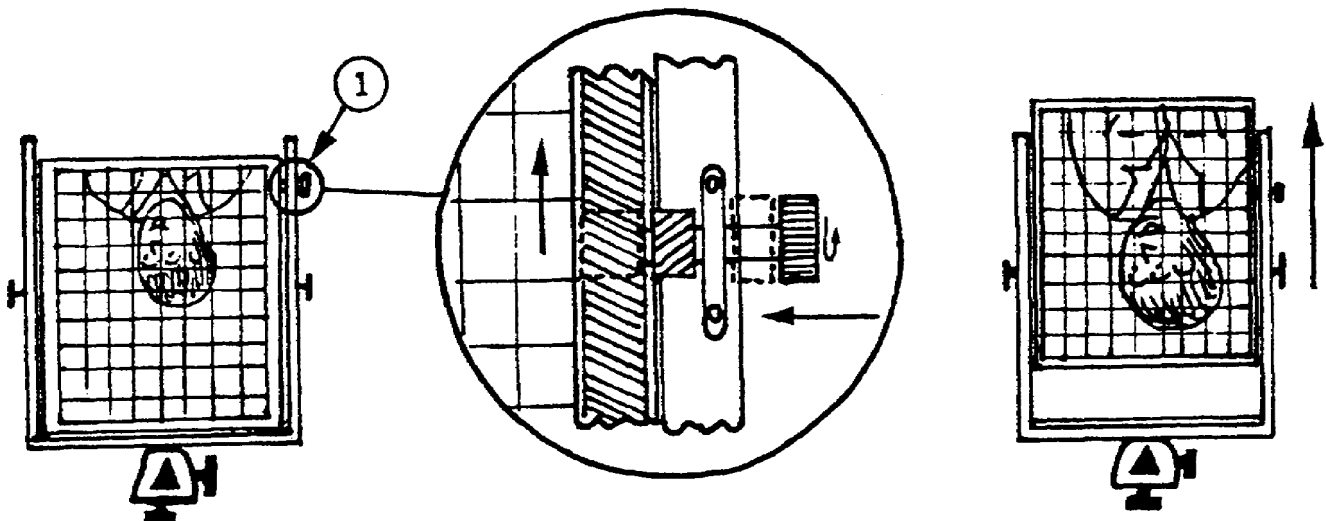

Figure 1-35. Image placement.
(1) To eliminate undesirable foreground or background from the photograph, or to eliminate wasted space at the top or bottom of image, raise or lower the lens board mounting plate by pushing in and rotating the spring-loaded pinion knob ① (fig 1-35), until the desired degree of elimination is achieved.